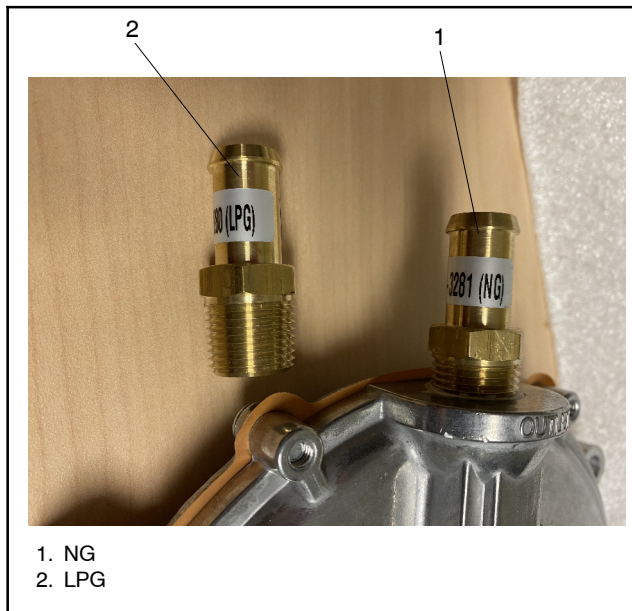

Figure 1-16 NG and LPG Fuel Jets
For natural gas (NG) and LPG, fuel jet fittings are used in the fuel line. The fittings are labelled for NG and LPG. See Figure 1-16.